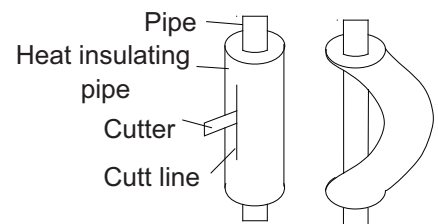

Fig.13
- (4). When bending the pipe, do not bend it as is. The pipe will be collapsed. In this case, cut the heat insulating pipe with a sharp cutter as shown in Fig.13, and bend it after exposing the pipe. After bending the pipe as you want, be sure to put the heat insulating pipe back on the pipe, and secure it with tape.
- ① . To prevent breaking of the pipe, avoid sharp bends. Bend the pipe with a radius of curvature of 150 mm or over.
- ② . If the pipe is bent repeatedly at the same place, it will break.